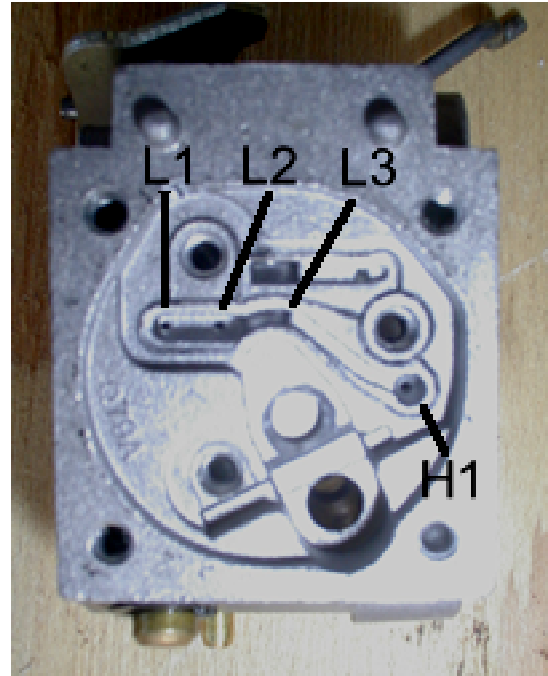

Figure 11. WA229 Lower chamber with plate removed.
2. Debris in the mixture metering screws is often assumed to be the problem but seldom is the problem. Don't start twisting those mixture screws right away as most people do. It is unreasonable that debris is here because the filter-screen at the fuel flow seat (3) keeps this debris out of the lower chamber. If it is not in the lower chamber, then it can't be picked up by the mixture metering circuits. Of course, if the carburetor has remain unused for a great length of time, then the jello substance can be found here also.
3. The venturi fuel metering ports (Figures 11 & 12) can become clogged with residue from evaporating fuel. Soaking the carburetor body in carburetor cleaner and blowing out these metering ports with compressed air will usually fix this problem.